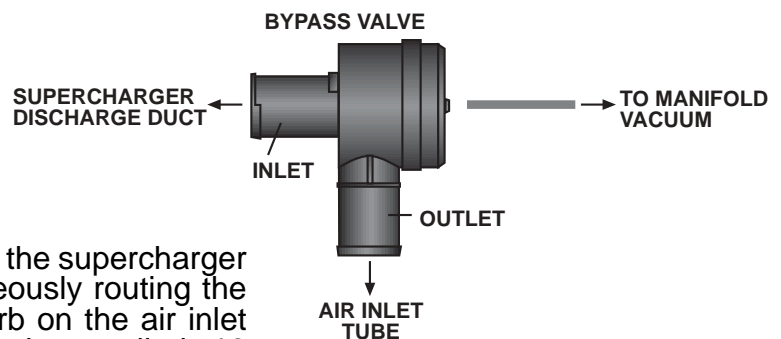

Figure: 17-a
- B. Slide the 1" x 14" hose onto the bypass valve outlet (see *Figure 17-a*) and secure with a #16 clamp.